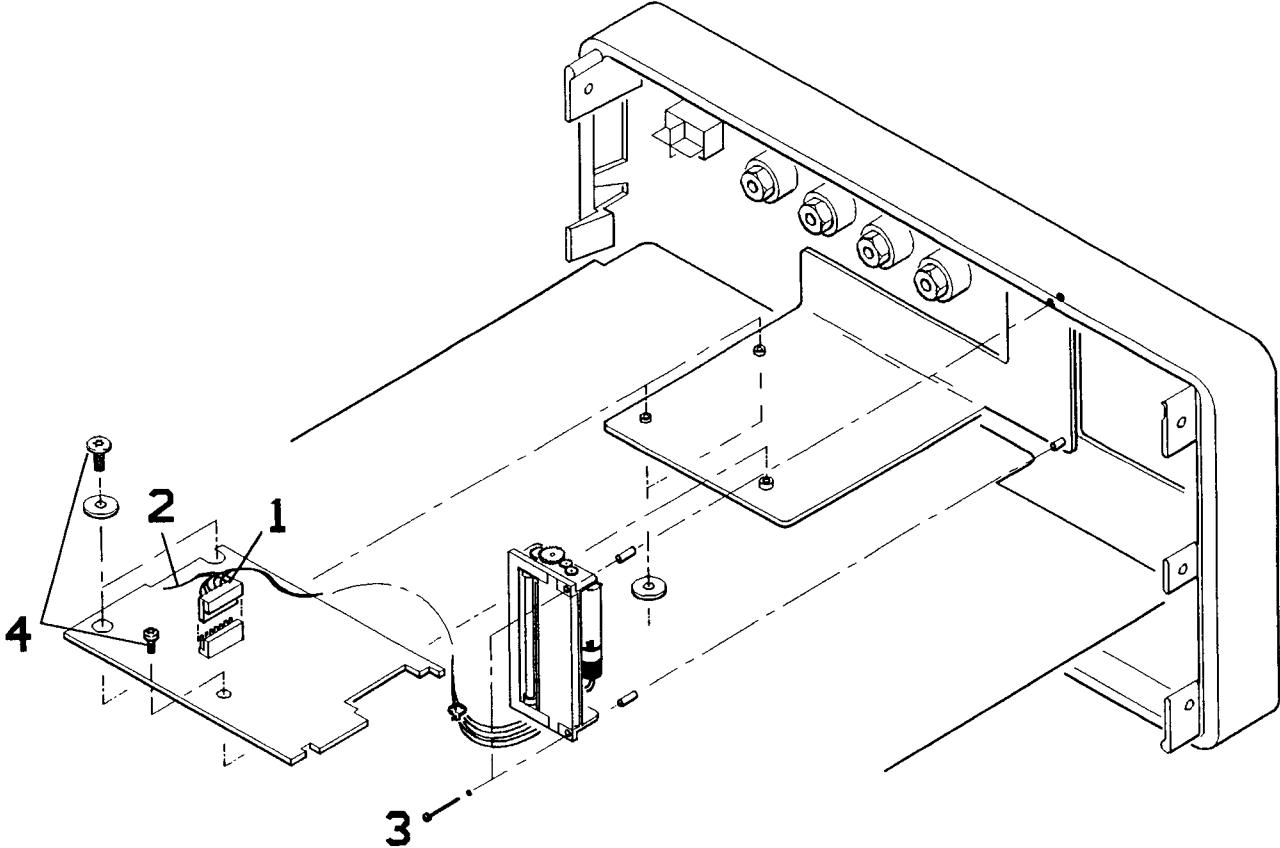

Figure 3-10. Printer Interface and Cable Removal
3. *Refer to figure 3-10, Printer Interface and Cable Removal.* Disconnect the cable at the white connector (#1, figure 3-10). Disconnect flex cable at J1 (#2, fig 3-10).
4. Remove two screws (#3, fig 3-10) attaching the printhead to the front panel. Carefully remove the cable assembly from the instrument.
5. Remove the three screws (#4, fig 3-10) attaching the Interface board to the chassis. Lift the assembly free of the chassis.